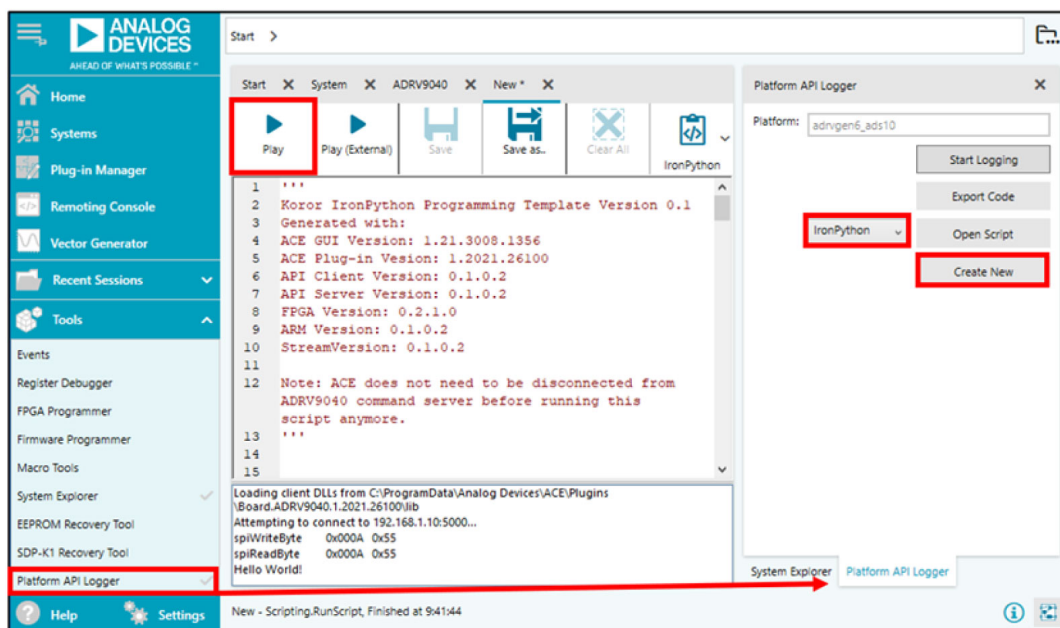

Figure 117. Using Platform API Logger to Open and Execute IronPython Scripts from Within ACE
2. Open a script from **Tools > Platform API Logger > Open Script** as shown in Figure 117. A template script for interfacing with the ADRV904x device is included with the plugin and can be opened from **Create New**. Scripts open as new tabs in ACE.